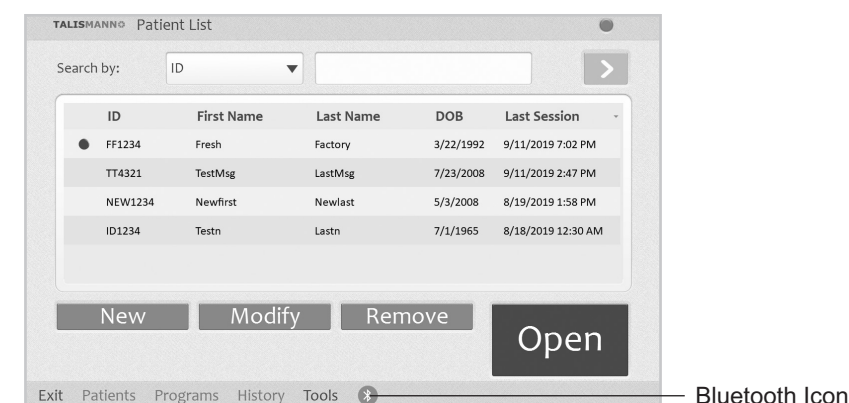

Figure 7-3: Bluetooth Icon on the Patient List screen.
3. Press the blue "Bluetooth" button on the bottom of the Patient List screen in the StimRouter Plus software. The E-EFC and Clinician Programmer will connect. See Figure 7-3.